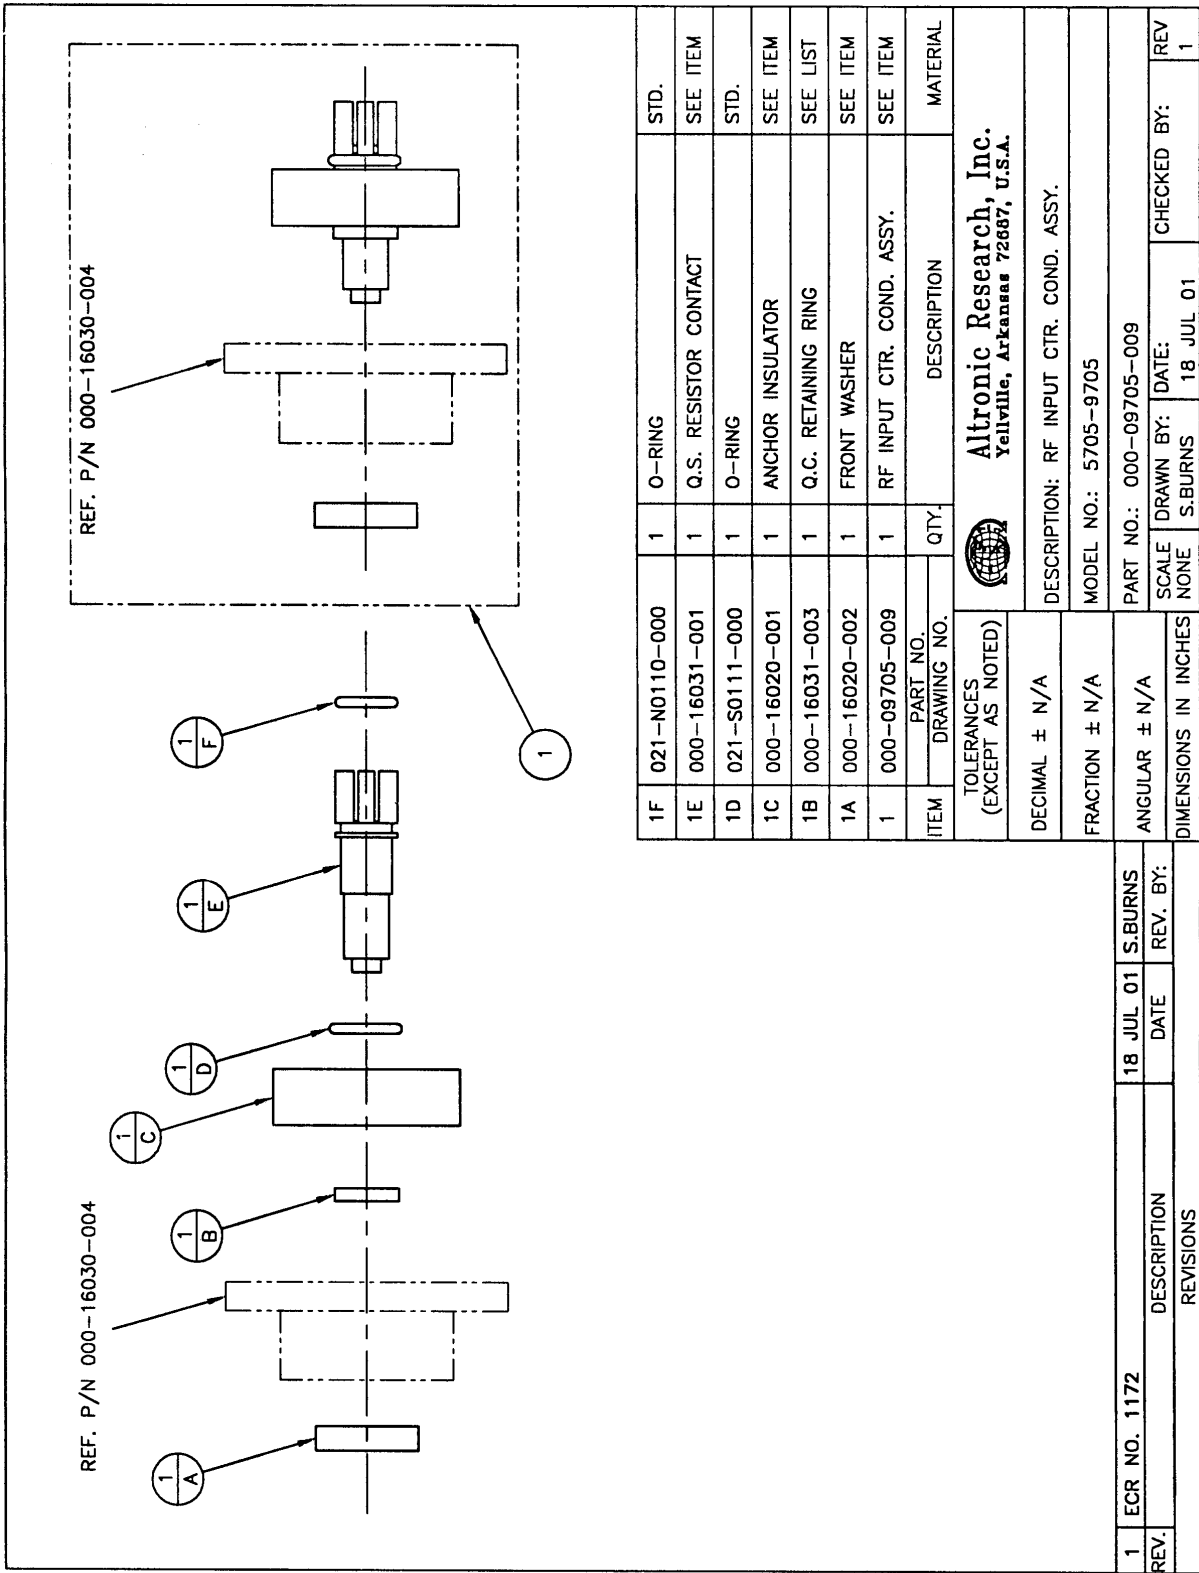

Fig. 16
5. **Removal of RF Input** - (Refer to Figure 15) To remove the RF line connector (item 2), remove four 8-32 x 1/2 T-15 torx head screws (item 1). To remove the RF input line adaptor flange (item 4), remove four 10-24 x 3/8" socket head screws (item 3) that secure the line adaptor flange (item 4) to the load body housing (item D, Fig. 14). The RF input assembly consisting of the center conductor, anchor insulator and front resistor contact (item 5) will normally remain in the load body. Lift front washer off the end of Q.S. resistor contact. Grasp the Q.S. resistor contact by hand and attempt to pull the input assembly out of the load body using slight side to side motion while pulling. If strong resistance is encountered, it may be necessary to chill the load to allow the anchor insulator to shrink away from the load housing. This can be done by placing the load in a freezer, or packing the load in ice for 20 to 30 minutes. Once the anchor insulator has shrunk away from the load housing, the RF input assembly should be easily removed. At this point of disassembly, all components of the load can be inspected or replaced as needed. Reassembly should be done in the reverse order of sequence. See Fig. 16 for individual component identification of item 5.